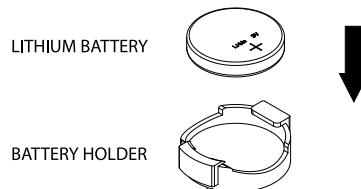

Figure 3-6. Installing the Onboard Battery
3. Remove the dummy drive from the carrier (Figure 3-6).